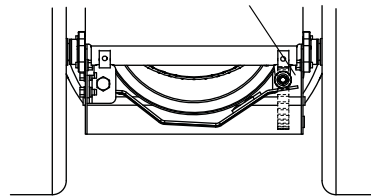

Figure 29
(Figures 29 and 30)
2. With the attachment clutch lever engaged, check the clearance between the frame and plastic roller on the lower end of the attachment idler arm (Figure 29).